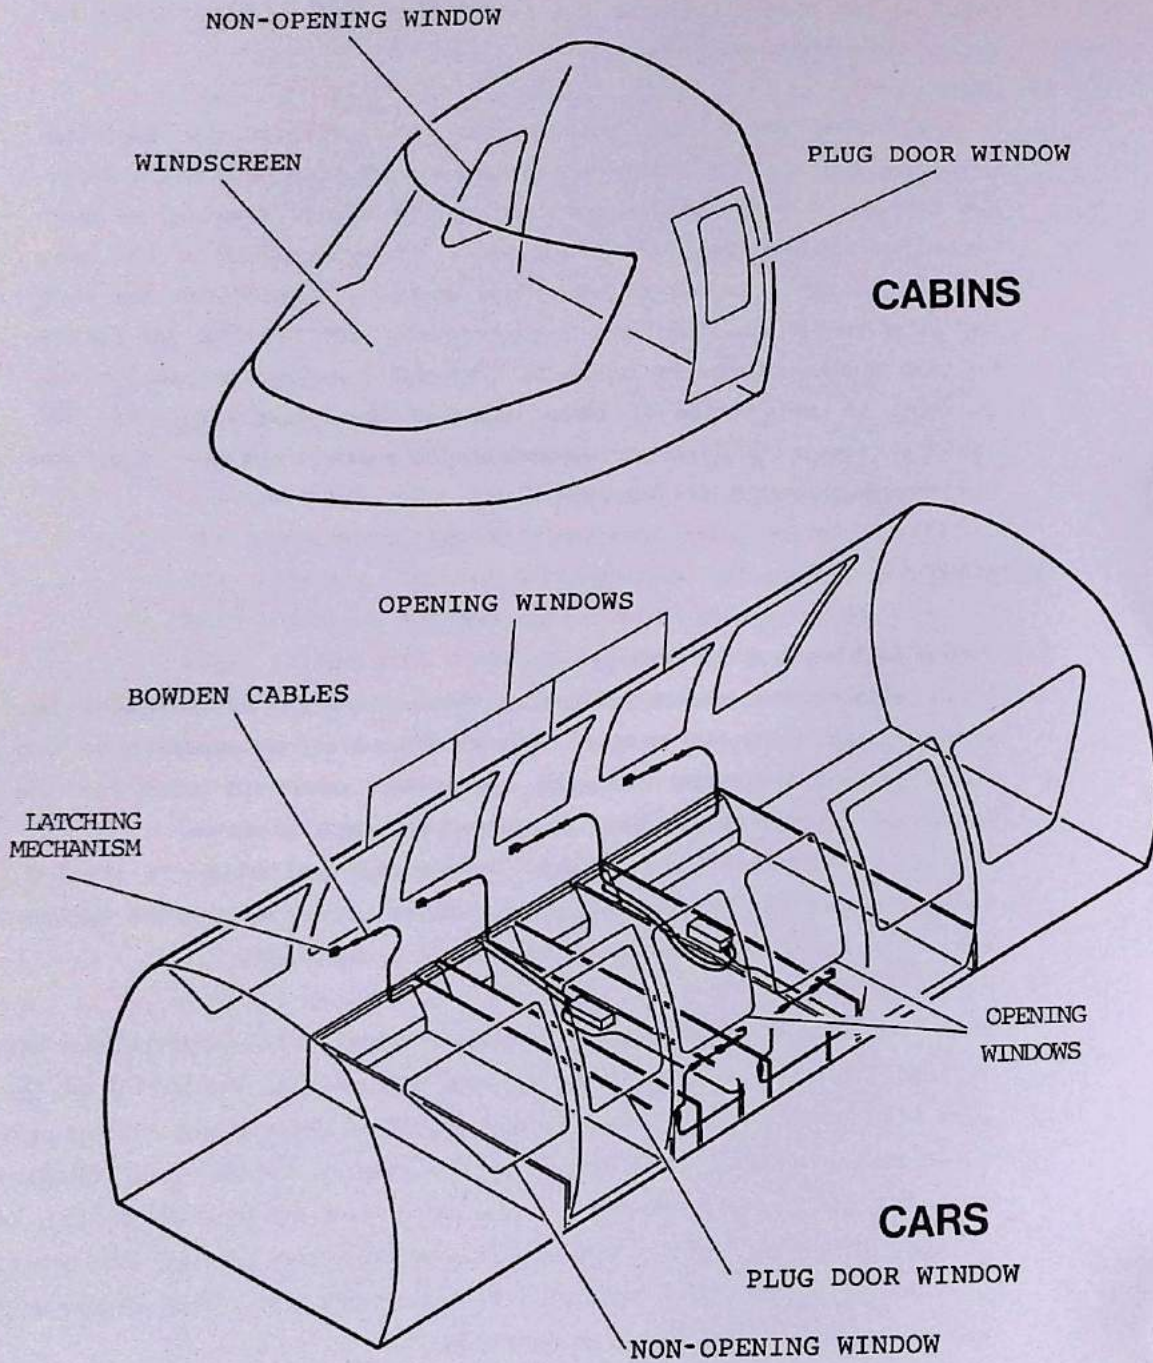

Fig. 1 Windows-General Arrangement
1. Description and OperationA. Description (Fig. 1)